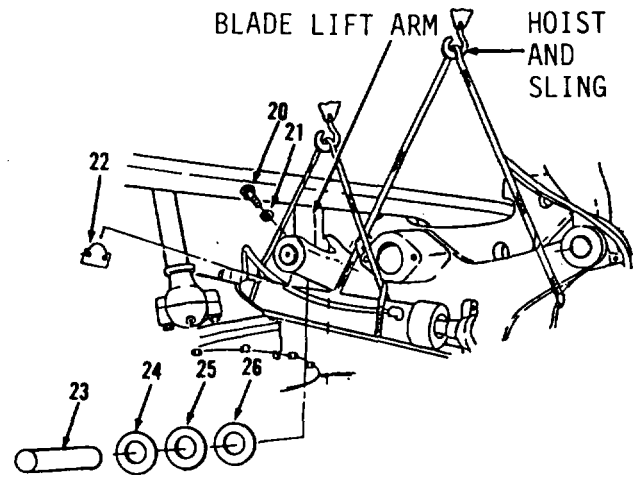
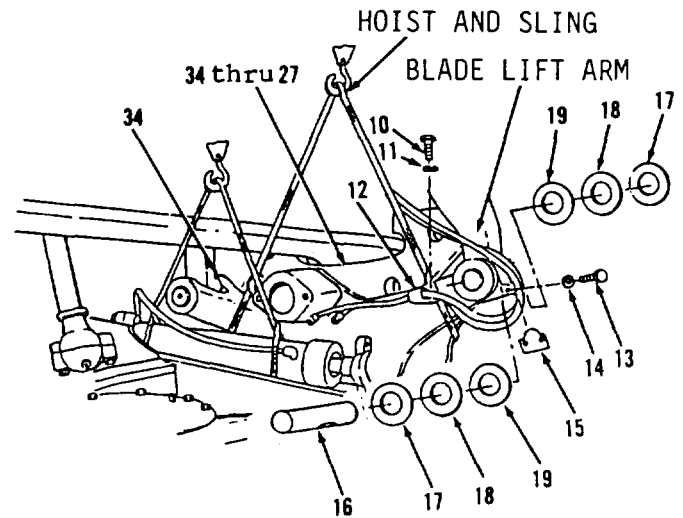

Figure 12-8.
Figure 12-7.
3. Install two washers (26, 25 and 24) between blade lift bar (34, Figure 12-8) and blade lift arms. Use two washers (26, 25 and 24) as required to obtain 0.06 to 0.12 inch clearance between blade lift bar (34) and lock plate.
4. Install pin (23). Groove in pin (23) must align with opening in blade lift arm.
5. Install lock (22), two washers (21) and bolts (20).
6. Install washers (19, 18 and 17) between items 34 thru 27 as an assembly (Figure 12-7) and blade lift arms. Use washers (19, 18 and 17) as required to obtain 0.06 to 0.12 inch clearance between blade lift bar (34) and lock plate.
7. Install pin (16). Groove in pin (16) must align with opening in blade lift arm.
8. Install lock (15), two washers (14) and bolts (13).
9. Remove hoist and sling from items 34 thru 27 as an assembly.
10. Install clip (12), lockwasher (11) and bolt (10) in blade lift bar (34).